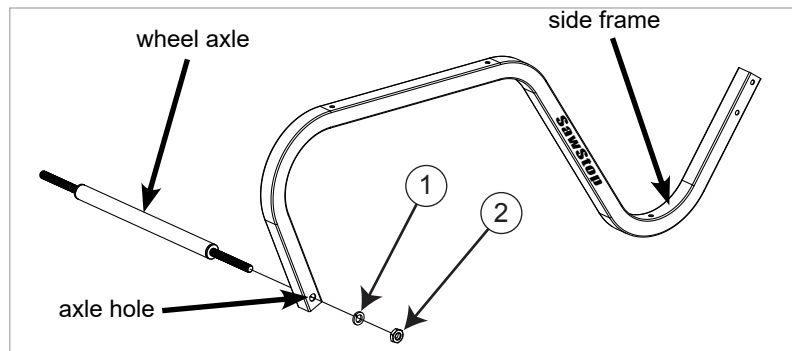

Fig. 2
2. Insert one end of the wheel axle through the axle hole in one side frame. Use one $\frac{5}{8}$ inch lock washer and one $\frac{5}{8}$ inch hex jam nut to secure the axle to the frame, as shown in Fig. 2. Fully tighten the nut using either a 1 inch wrench or an adjustable wrench.